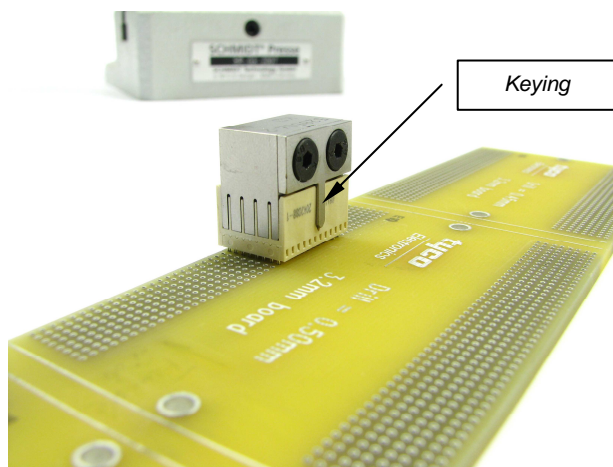

Figure 6
2. After that the insertion block is fitted onto the connector. The flat surface must show upwards. The keying prevents the insertion block from being inserted the wrong way around (see figure 6).